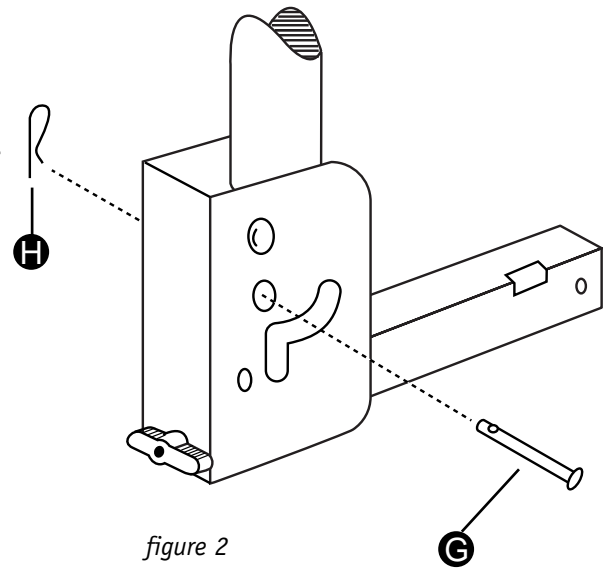

figure 2
2. Attach a Bike Tray (B) to the Tray Support Platform (I) using a Cap Screw (C) and Small Lock Nut (D). Insert a Cap Screw (C) through one of the small holes in the top of the Bike Tray. Tighten with the  $\frac{3}{16}$ " Hex key while holding the Small Lock Nut (D) with the  $\frac{7}{16}$ " wrench under the Tray Support Platform (I).
3. Repeat step 2 for the other side of the Bike Tray and for the remaining Bike Tray (B)
4. Insert the Clevis Pin (G) into the Hitch Foot and snap on the Clevis Pin Clip (H) as shown in *figure 2*.
1. Pull forward (towards the vehicle) on the top of the Upright Tube(A) and remove the Clevis Pin Clip (H) and Clevis Pin (G) from the Hitch Foot. (See figure 2).
3. To return the rack to its upright position, raise and push forward on the top of the Upright Tube (A) and insert the Clevis Pin (G) into the Hitch Foot and snap on the Clevis Pin Clip (H). (See figure 2).